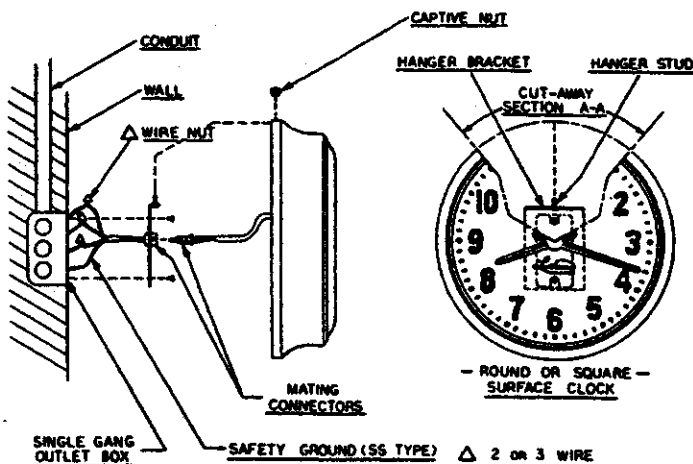

Figure 4: Surface Mount Installation
4. Secure hanger plate as shown in Fig. 4. and adjust hanger plate jam nuts to desired height.
1. Install a single gang outlet wall box as shown in Fig. 4. Pull system wires into box.